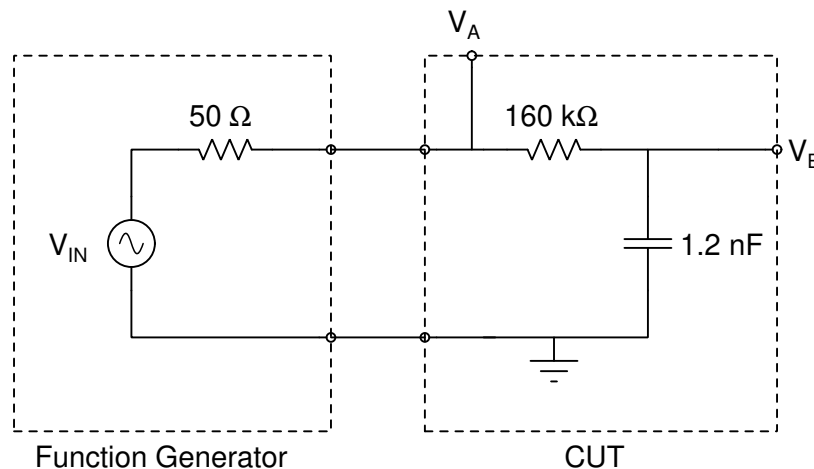

Figure 1: Circuit to be analyzed in Lab #2.
The circuit under test (CUT) is shown in/autoreffig1. Node voltages V_A and V_B will be measured using the two input channels on the oscilloscope. As in Lab #1, the input impedance of each channel will influence the circuit behavior. The 1X probe connecting the function generator to the circuit, and the scope probes connecting the CUT to the oscilloscope are not explicitly shown in Figure 1. However, the capacitance of these probes may influence the circuit behavior.
2. For the RC circuit shown in **Figure 1**:
Table 1: Calculated amplitude and phase shift at node V_B in the circuit of **Figure 1**.
- For the circuit in **Figure 1**, set the peak input voltage set to 1 V, and simulate the node voltages V_A and V_B , and the phase shift (PS) in degrees between the two nodes. Record your results in the “Ideal Simulated Circuit” columns in **Table 2**.
- Modify the schematic in **Figure 1** to include the probe capacitances and the input impedances of the two oscilloscope channels at nodes V_A and V_B . With the peak input voltage set to 1 V, simulate the node voltages V_A and V_B , and the phase shift (PS) in degrees between the two nodes. Record your results in the “Complete Simulated Circuit” columns in **Table 2**.
2. Measure the values for each component needed in the circuit shown in **Figure 1** using the LCR meter and a DVM. When measuring the capacitance, measure both C and DF at frequencies of 1 kHz and 10 kHz. Calculate the ESR of the capacitor at these frequencies. Can the ESR be ignored? Explain your reasoning in your notebook.
3. Build the circuit shown in **Figure 1**: